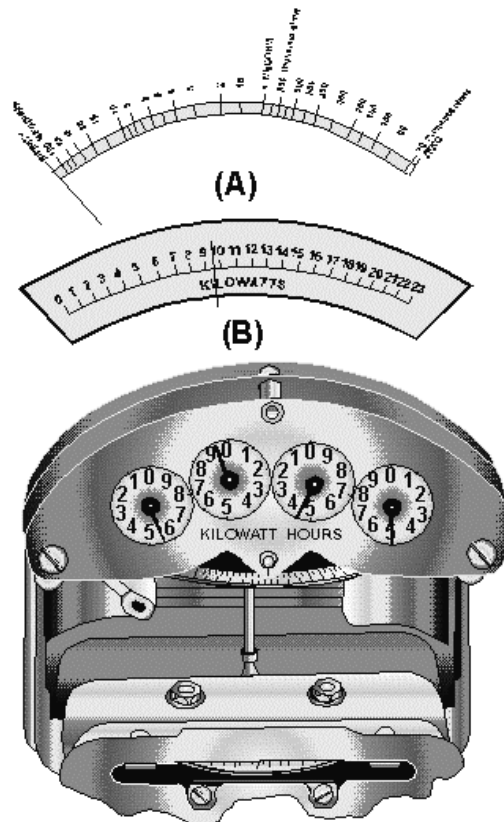

Figure 1-51.—Meter reading practice.
- Q68.** What type of meter is shown and what is the value of the quantity being measured for each meter in figure 1-51?
- Q69.** If the insulation of a conductor was being measured in figure 1-51 (A), would the reading indicate a good insulation?